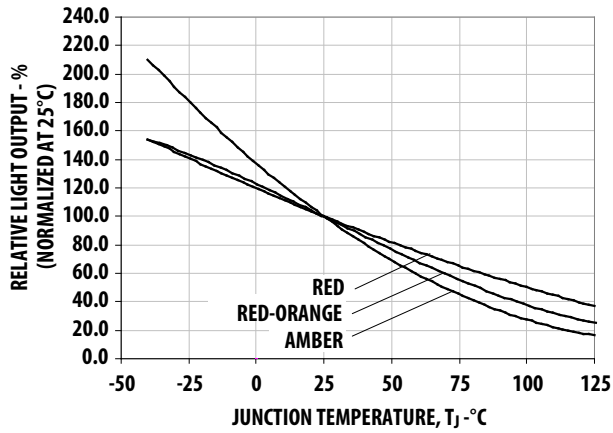
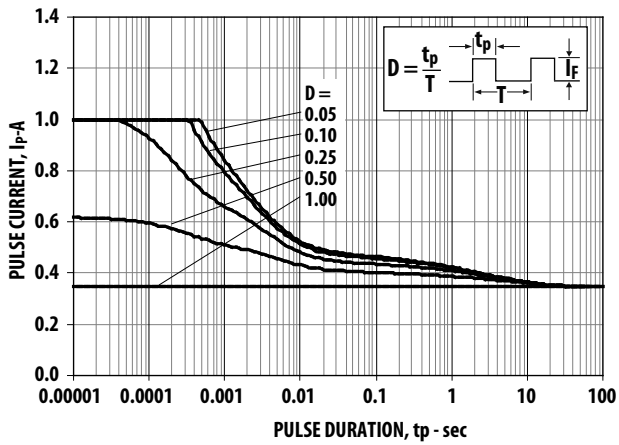

Figure 7. Relative Light Output vs. Junction Temperature
Figure 17. Maximum pulse current vs. ambient temperature. Derated based on $T_A = 25^\circ\text{C}$, $R\theta_{J-A} = 50^\circ\text{C/W}$.
1. Derate linearly based on Figure 7 for AllnGaP and Figure 17 for InGaN.